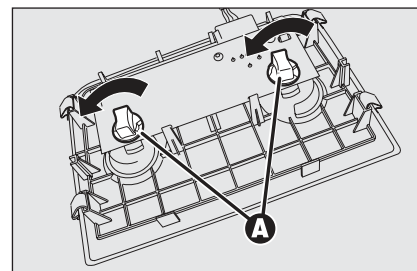

fig. 43
- ☐ turn the 2 bulb holders **A-fig. 43** counter-clockwise, remove and replace bulbs.